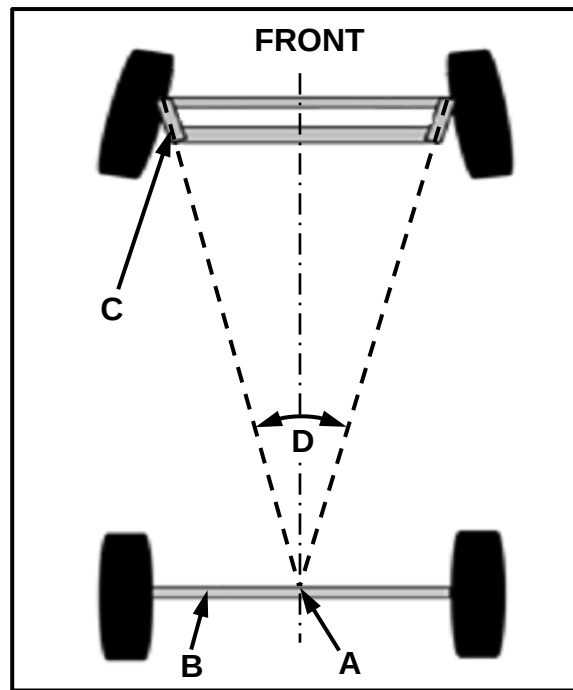

FIGURE 10.2
10.2 FIGURE 10.2 below shows a wheel alignment angle. Answer the questions that follow.